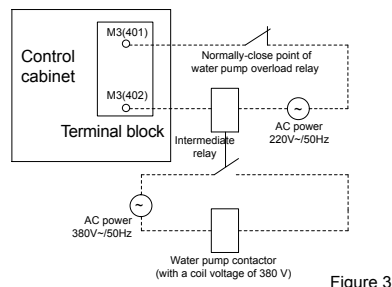
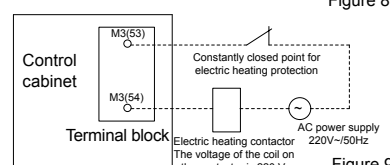

Figure 3
Figure 9
- For the terminal blocks in figures 9 and 10, M3(53) and M3(54) indicate the signal contacts for auxiliary electric heating on the air conditioning side; M3(28A) and M3(28E) indicate the signal contacts for auxiliary electric heating on the heat recovery side.
- Operating signals of the unit come from the operating signals of the water pump. If M3 (401) and M3 (402) are externally connected to a water pump contactor, the operating signals of unit come from the normally-open contact of the contactor.
- When the unit is in the remote mode control, switch Q8 must be set to "Heating". It can be controlled by connecting a remote switch to M3 (60) and M3 (61). The short contact tag between M3 (60) and M3 (61) must be removed.
- The failure, water pump output and electric heater contact can bear an AC voltage of only 230 V. If the water pump contactor uses a 380 V coil, conversion is required. See Figure 3/10.